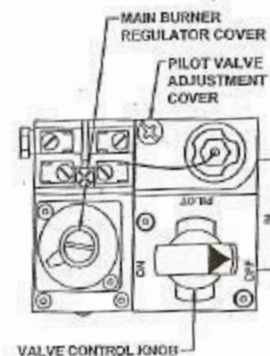

Figure 6. Gas Control Valve & Knob Positions
3. Turn the gas control valve knob to the PILOT position with the valve mark. Figure 6 shows the possible control knob positions.